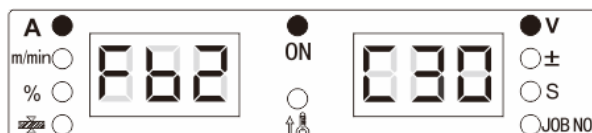

Fig.3-10 Model Query Display Interface
1. Enter into internal function, and adjust left panel knob to FB2 (shown in figure3-10).